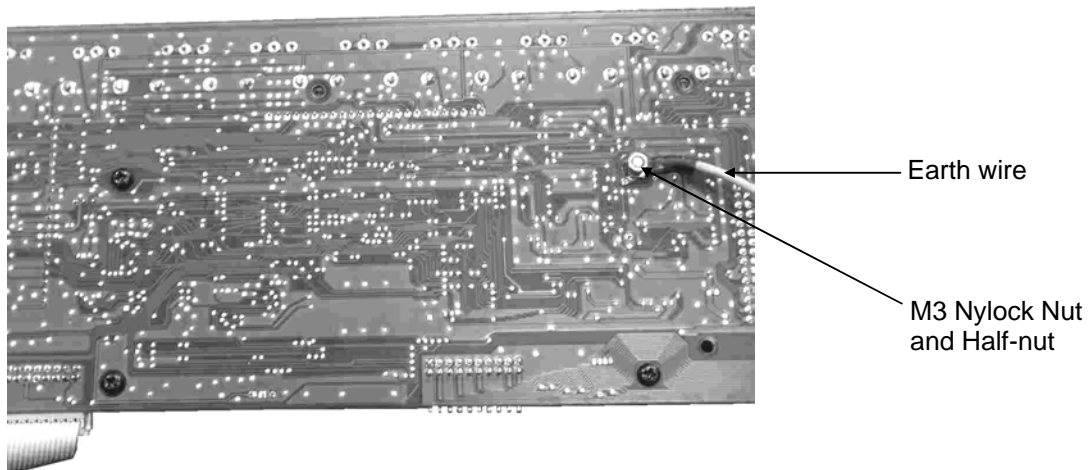

fig.16
- 2) Flip the CPU circuit board over and remove the M3 nylock nut, earth wire and then remove the M3 half-nut (see fig.16)